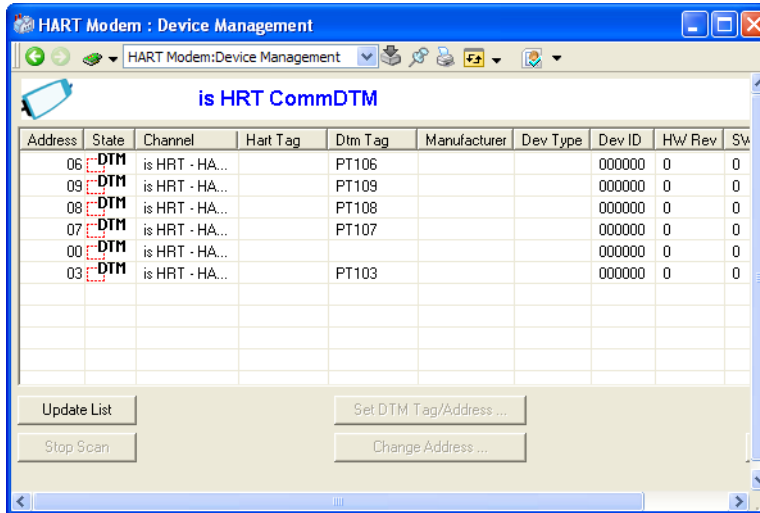

Figure 61. Update List
7. All the field devices connected on HART fieldbus segment are detected and listed in the Channel Device List table as shown in Figure 61.